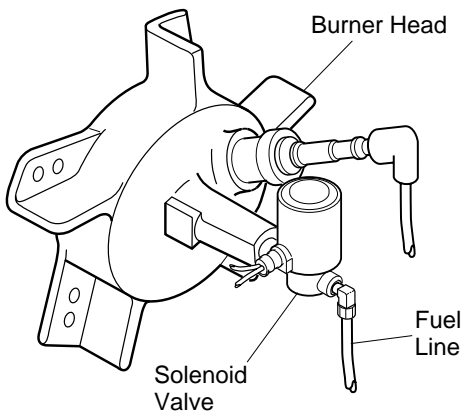
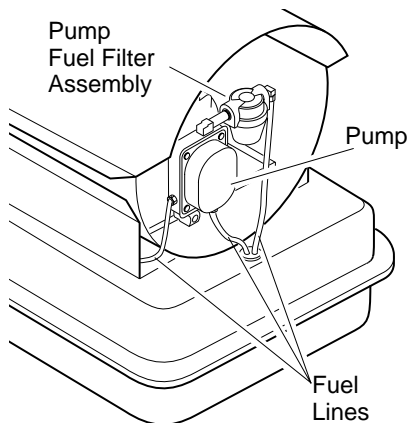

Figure 13 - Fuel Line at Solenoid Valve
Figure 14 - Fuel Lines at Pump and Pump Fuel Filter Assembly
3. Use 7/16" wrench and tighten fuel lines at solenoid valve (see Figure 13), pump, and pump fuel filter assembly (see Figure 14).